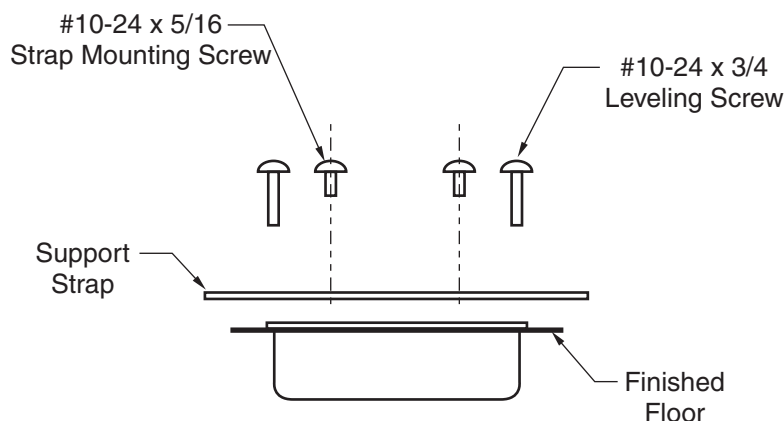

Figure 3
6. Using 10-24 x 5/16 round head screws, tighten straps to top of closer. See Figure 3 at right.